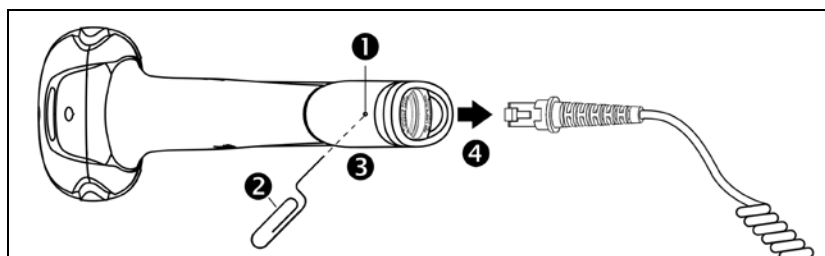

Figure 3. Releasing the Cable
2. Bend an ordinary paperclip into the shape shown above in *Figure 3*.